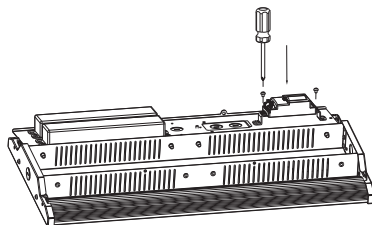

Figure 13
Step 2. Fix microwave sensor on corresponding position (Figure 13)